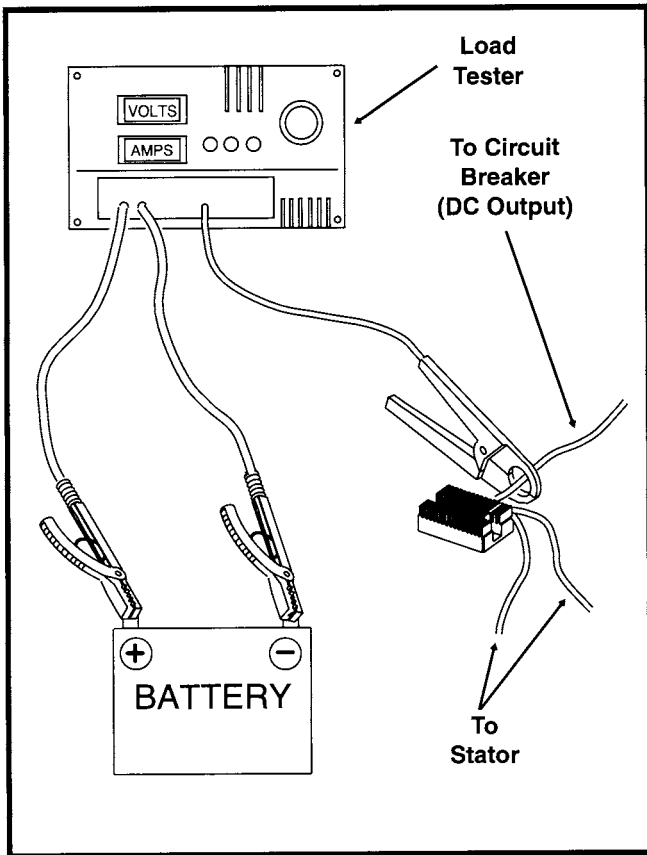

Figure 10. Current and Voltage Output Test
1. Connect load tester negative and positive leads to battery terminals and place load tester induction pickup over positive regulator cable as shown in Figure 10.
See Figure 10. After removing the load, read the load tester voltage meter. Voltage to the battery must be less than 15 volts. If voltage is higher, regulator is not functioning properly or connections are loose or dirty.